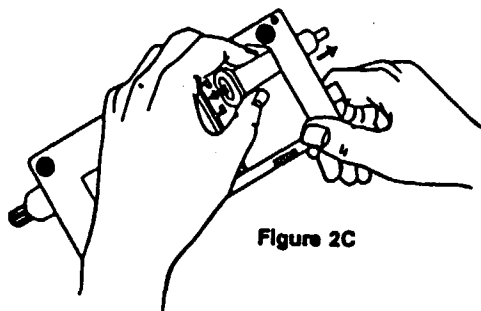

Figure 2C
2. Turn the meter upside down and slide the tip of the solution cartridge through the large opening in the meter base and then through the oval opening. See Figure 2C. Slide the flat end of the cartridge firmly into the semicircular slot in the meter; note the horizontal orientation of the tabs.